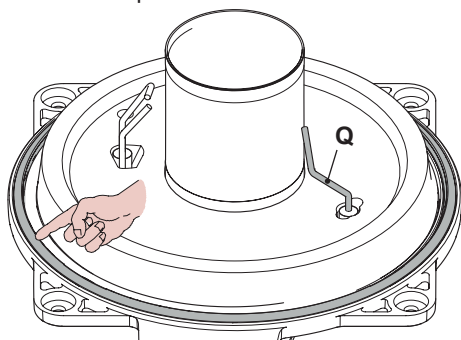
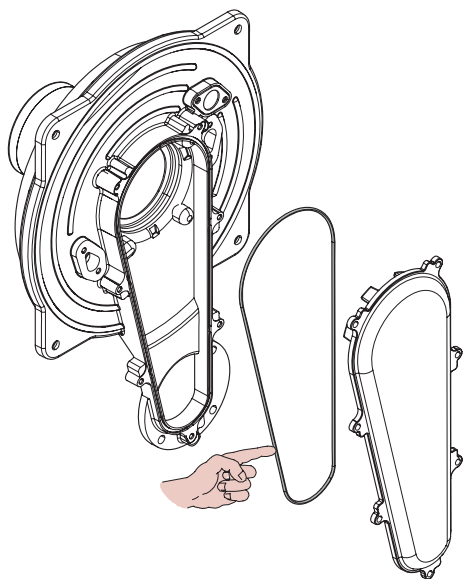

Fig. 10.7
Fig. 10.8
- The silicon seal on the front wall of the combustion chamber Fig. 10.7 and the seal on the air/gas pipe cover (Fig. 10.8) must be replaced if worn.
- The detection electrode "Q" in Fig. 10.7 also functions as a sensor for the correct drainage of the condensate. Should the mentioned electrode come into contact with the condensate water present within the combustion chamber it sends the boiler into safety lockout. Therefore, should the insulation be wet or deteriorated, provide for the substitution of the same.
Caution: After any periodical servicing or disturbance the combustion chamber silicon seal Fig. 10.7 and the Air-gas duct gasket (Fig. 10.8) must be fully inspected and replaced at the discretion of the service engineer.